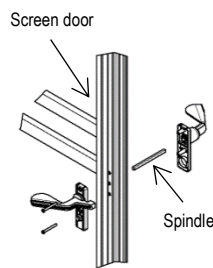

Fig. 2
- Assemble handle components and use two 1 1/4" machine screws to secure the two handles together (Fig. 2).